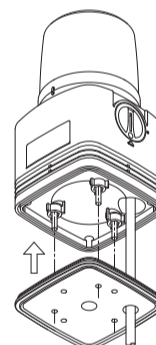

Figure 1: Rubber Mounting Attachment
- 1 Attach the rubber mounting to the product as shown in "Figure 1: Rubber Mounting Attachment".